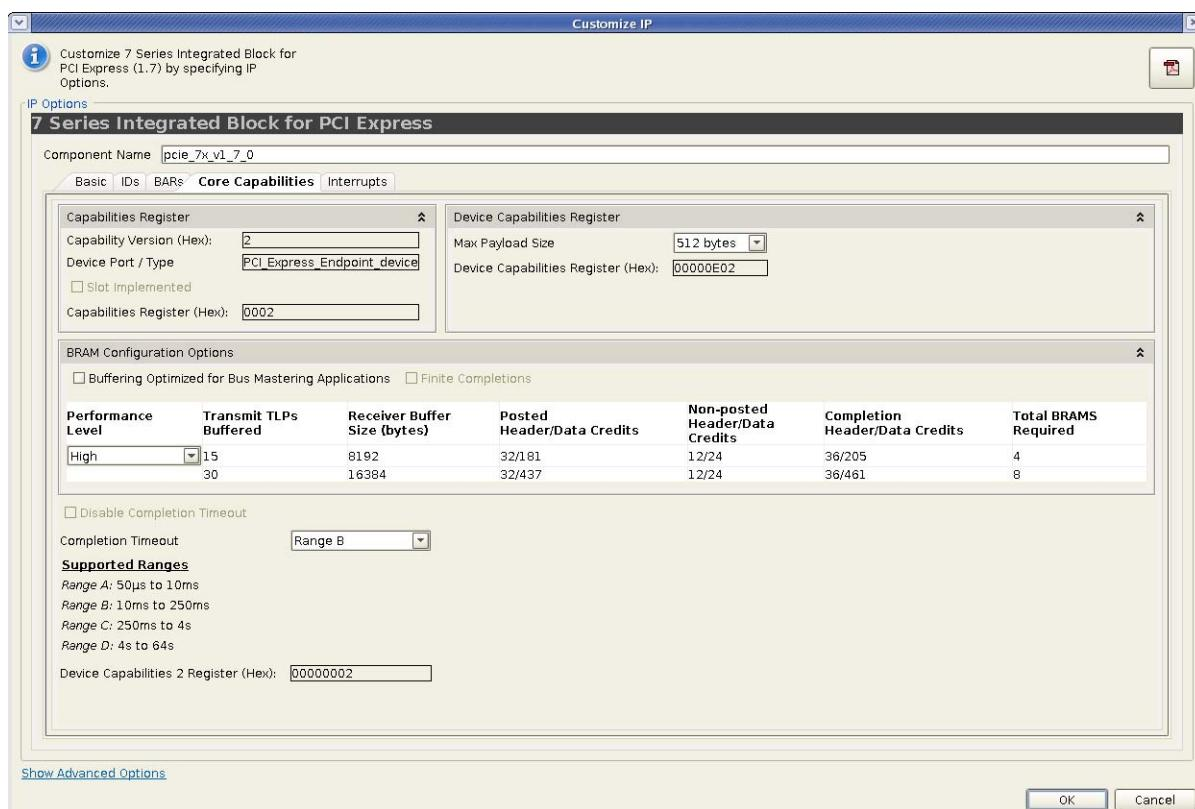

Figure 4-4: Core Capabilities Parameters
The Core Capabilities parameters shown in Figure 4-4 is used to customize the IP initial values, class code, and Cardbus CIS pointer information.
- **Attention Button Present:** Indicates the Attention Button is implemented. When set, indicates that an Attention Button for this slot is implemented on the chassis. This option is disabled when "Device_Port_Type" is not "Root Port of PCI Express Root Complex." This is enabled only when the Slot Implemented parameter in the Core Capabilities tab is selected (see Figure 4-4).
- **Attention Indicator Present:** Indicates the Attention Indicator is implemented. When set, indicates that an Attention Indicator for this slot is implemented on the chassis. This option is disabled when "Device_Port_Type" is not "Root Port of PCI Express Root Complex." This is enabled only when the Slot Implemented parameter in the Core Capabilities tab is selected (see Figure 4-4).
- **Power Controller Present:** Indicates the Power Controller is implemented. When set, indicates that a software programmable Power Controller is implemented for this slot. This option is disabled when "Device_Port_Type" is not "Root Port of PCI Express Root Complex." This is enabled only when the Slot Implemented parameter in the Core Capabilities tab is selected (see Figure 4-4).
- **Power Indicator Present:** Indicates the Power Indicator is implemented. When set, indicates that a Power Indicator is implemented on the chassis for this slot. This option is disabled when "Device_Port_Type" is not "Root Port of PCI Express Root Complex." This is enabled only when the Slot Implemented parameter in the Core Capabilities tab is selected (see Figure 4-4).
- **Hot-Plug Surprise:** When set, indicates that an adapter in this slot might be removed from the system without any prior notification. This option is disabled when "Device_Port_Type" is not "Root Port of PCI Express Root Complex." This is enabled only when the Slot Implemented parameter in the Core Capabilities tab is selected (see Figure 4-4).
- **Hot-Plug Capable:** When set, indicates that this slot is capable of supporting hot-plug operations. This option is disabled when "Device_Port_Type" is not "Root Port of PCI Express Root Complex." This is enabled only when the Slot Implemented parameter in the Core Capabilities tab is selected (see Figure 4-4).
- **MRL Sensor Present:** Indicates MRL Sensor implemented. When Set, indicates that an MRL (Manually operated Retention Latch) sensor is implemented for this slot, on the chassis. This option is disabled when "Device_Port_Type" is not "Root Port of PCI Express Root Complex." This is enabled only when the Slot Implemented parameter in the Core Capabilities tab is selected (see Figure 4-4).
- **Electromechanical Interlock Present:** When set, indicates that an Electromechanical Interlock is implemented on the chassis for this slot. This option is disabled when "Device_Port_Type" is not "Root Port of PCI Express Root Complex." This is enabled only when the Slot Implemented parameter in the Core Capabilities tab is selected (see Figure 4-4).
- **No Command Completed Support:** When set, indicates that the slot does not generate software notification when an issue command is completed by the Hot-Plug Controller. This option is disabled when "Device_Port_Type" is not "Root Port of PCI Express Root Complex." This is enabled only when the Slot Implemented parameter in the Core Capabilities tab is selected (see Figure 4-4).
- **Slot Power Limit Value:** Specifies the Upper Limit on power supplied to the slot, in combination with Slot Power Limit Scale value. This option is disabled when "Device_Port_Type" is not "Root Port of PCI Express Root Complex." This is enabled only when the Slot Implemented parameter in the Core Capabilities tab is selected (see Figure 4-4).
Capabilities tab is selected (see Figure 4-4).